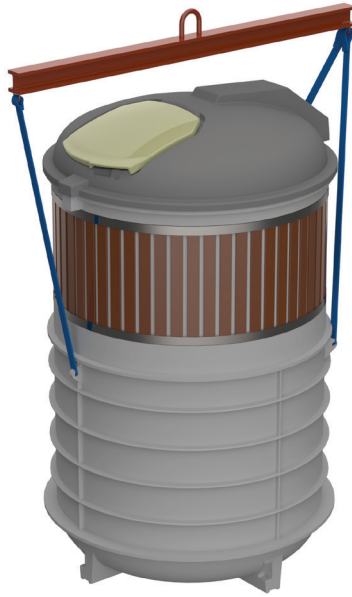

Figure 3: Handling ECOdip containers
- * Only handle the containers with the help of the console, the lifting bands and the rings which are an integral part of the container housing (Figure 3). Throughout the handling process, containers must always be in an upright position, with the cover facing upwards, and must not be placed in a horizontal position;
The transport of the container may only be carried out using appropriate transport equipment and devices. The containers must be protected from potential slips and falls during transport with fastening straps. It is prohibited to lift and attach containers using steel ropes, chains and similar accessories. Handle the containers using the console and lifting bands, which must be placed in the load rings of the container (Figure 3). Do not push, pull or roll containers on the ground.
Insert the containers into the construction pit with the help of the console and lifting bands (Figure 3), and use a bubble level to verify if they are standing upright.